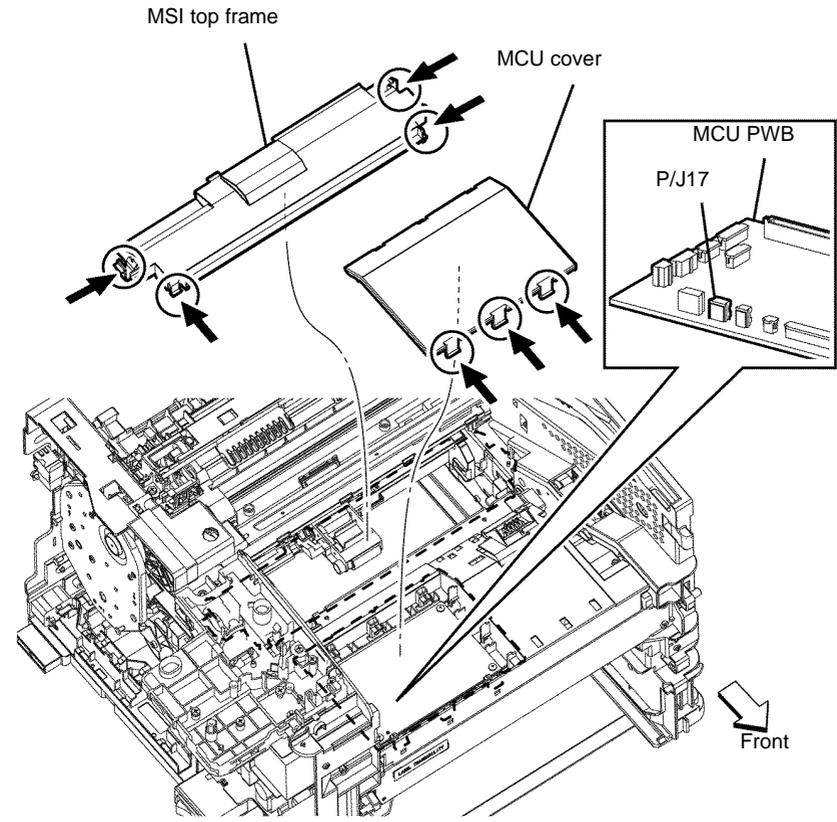

Figure 3 T21 exit clutch harness assembly release
17. Release the four hooks that fix the MSI top frame. Remove the MSI top frame, Figure 3.
18. Release the three hooks that fix the MCU cover to the printer. Disengage PJ17 from the MCU PWB, then release the harness of the T21 exit clutch assembly from the harness guide, Figure 3.